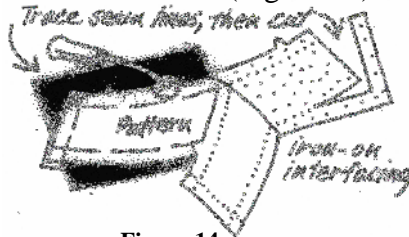

Figure 14
- Trace seam lines on fusible interfacing before cutting out. Cut just outside this marking, so there will be no need to trim the seam allowance later. (Figure 14)